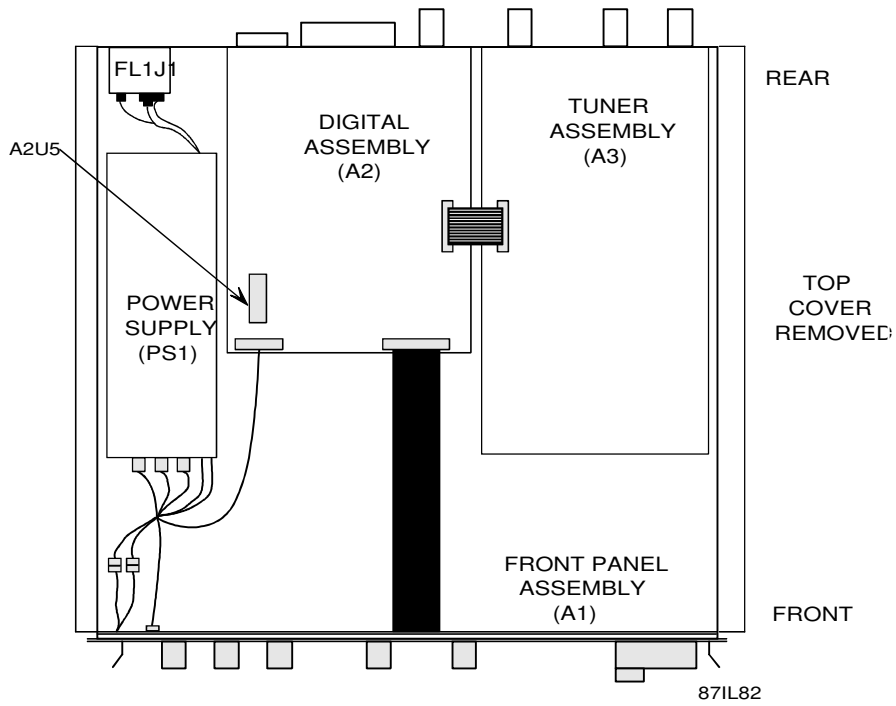

Figure 7-23. RAM/BATTERY (U5) Removal and Replacement Procedures
- Refer to **Figure 7-23** for location of RAM IC (A2U5) on the Digital Assembly (A2).
Refer to **Figure 7-23** for the approximate location of U5 on the Digital Control PC Assembly. If your receiver contains a Digital Expansion Assembly (Options) Board A2A1, the Digital Expansion Assembly (Options) A2A1 must be removed for access to the A2U5 component. (**Note:** Observe proper Electro Static Discharge (ESD) procedures when removing and replacing A2U5.)